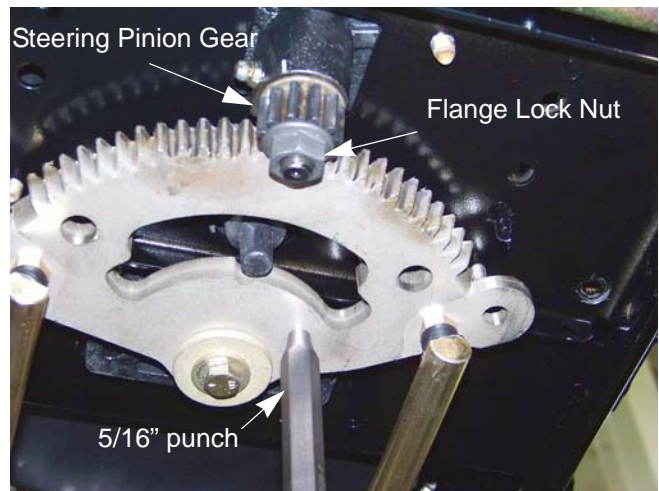

Figure 6A.10
6. Remove the bolt and washer, indicated by the arrow in Figure 6A.11, that secures the steering sector gear to the steering housing pivot shaft using a 1/2" wrench.